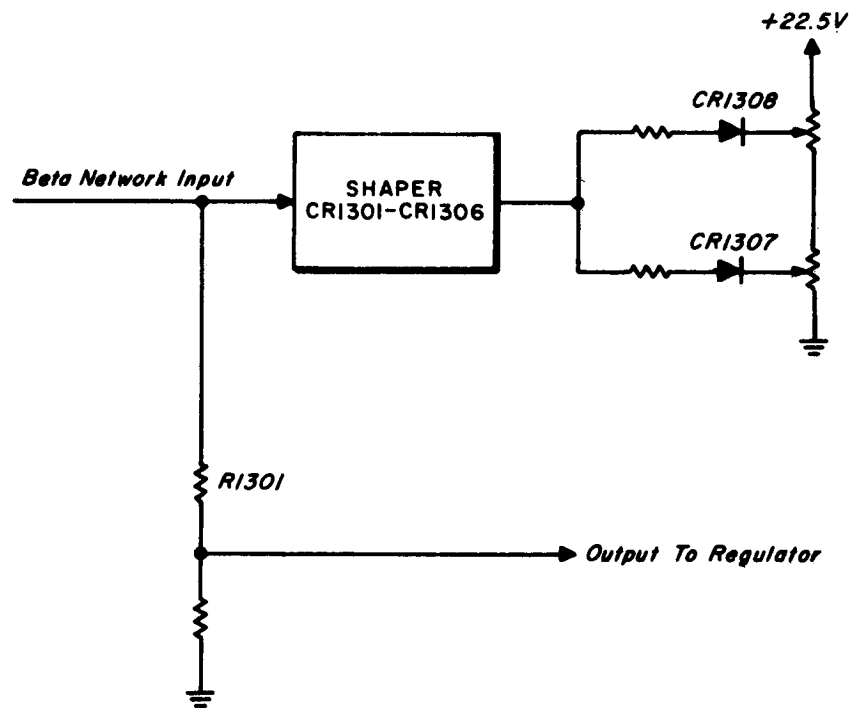

Figure 8. Shaper, Block Diagram
b. Shaper. The shaper (figure 8) adds an exponential component to the sampled high-voltage input from the Beta network. The shaper consists of a resistive network and shaping diodes CR1301 through CR1308. Bias for the shaping